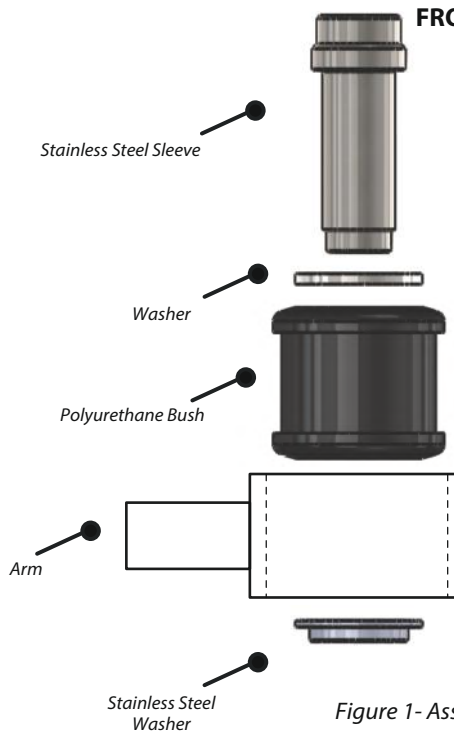

Figure 1 - Assembly
3. Place the flat washer onto the stainless steel sleeve until it sits flush against the machined shoulder of the sleeve as shown in Fig 1.
6. Fit the machined stainless steel washer onto the exposed end of the sleeve with the larger shoulder sitting against the bush face as shown in Fig 1.